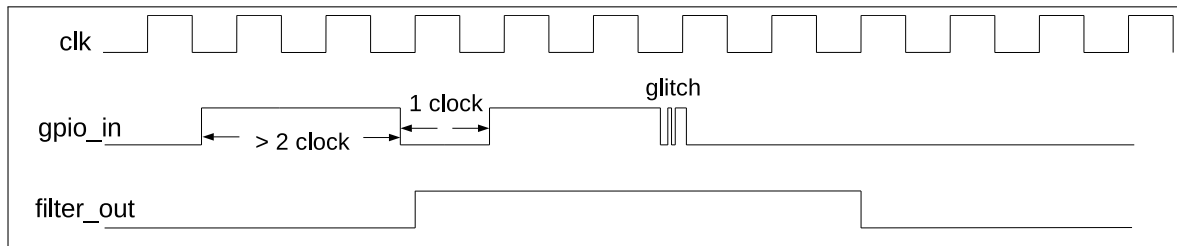

Figure 7.4-2. GPIO Filter Timing of GPIO Input Signals
2. Optionally enable the GPIO Filter for pin input signals by setting `IO_MUX_GPIO $x$ _FILTER_EN`. Only the signals with a valid width of more than two clock cycles can be sampled, see Figure 7.4-2.